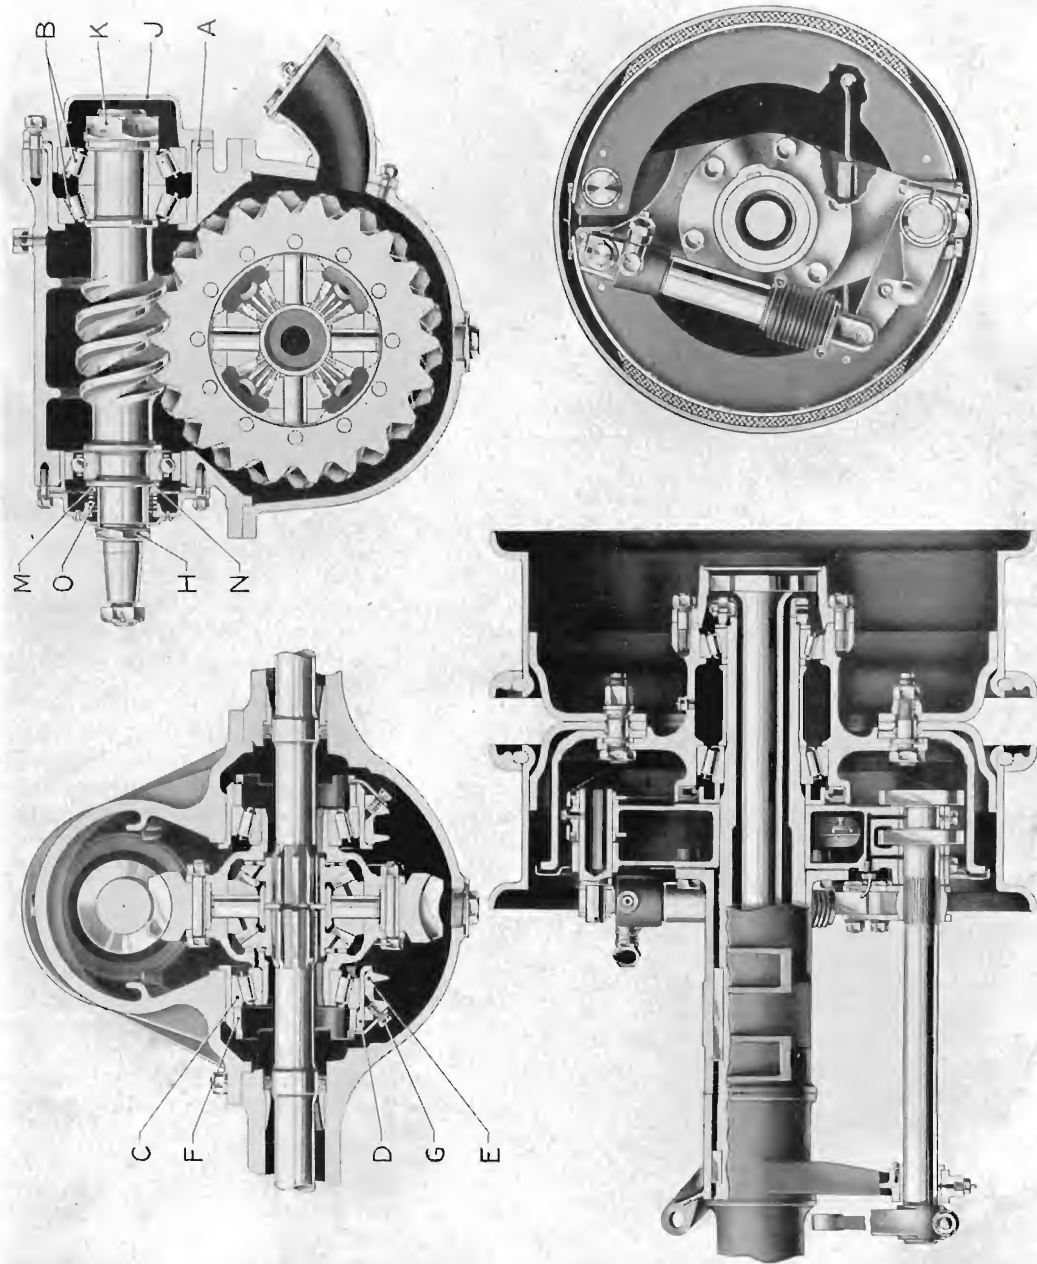

Fig. 5.
Endwise adjustment is effected by fitting shims at (*A*), Fig. 5, between the bearing-housing flange and the cover; three thicknesses of shims are available.
The roller bearings (*C*) Fig. 5, are carried in bearings cups (*D*) which are split so that they nip the races when the caps (*E*) are pulled down. Dowels locate the cups in the housing so that the cups cannot rotate when the adjusting nuts (*F*) are turned. The adjusting nuts are secured by locking plates fastened to the caps by setscrews (*G*).
Draw off the coupling flange, release the tab washer and unscrew the nut (H), Fig. 5; take off the rear cover (J), tapped holes are provided for drawing. Screw two bolts into the tapped holes in the thrust race housing flange and draw the shaft through complete with the front bearing.
for end play of .007 in. as outlined under "Adjustment of Worm Shaft," the front bearing housing can then be replaced, the gland assembled and the locking nut (H), Fig. 5, tightened solid and locked with the tab washer. The Spicer coupling flange must then be carefully fitted, see "Taper Fixings."
Oil loss along the worm shaft is prevented by means of a packless gland fitted on the front end of the shaft. The gland consists of a thin diaphragm having a bronze seating ring (M), Fig. 5, attached to the inner end. The necessary pressure against the seating washer (N) is supplied by the spring (O). The gland requires no adjustment but care should be taken when dismantling not to damage the bronze seat. If the seat is damaged a complete new gland should be fitted.